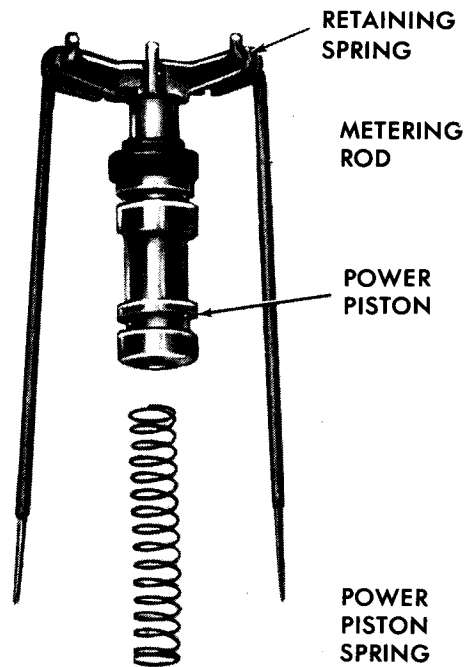

Figure 18—Power Piston and Metering Rods
6. Remove metering rods from power piston by disconnecting tension spring from top of each rod. Then rotate rod to remove from hanger (figure 18).